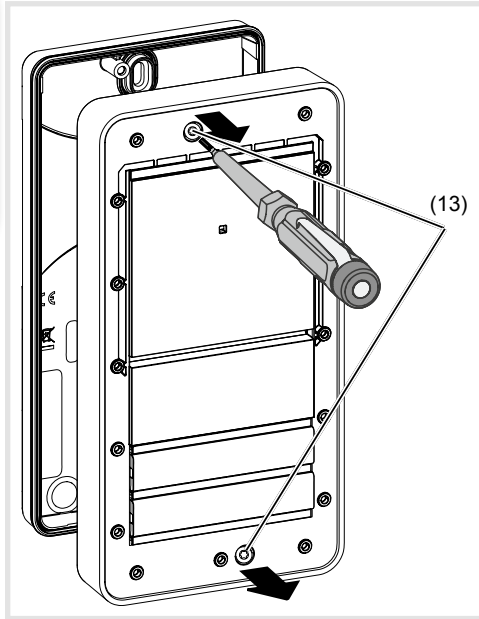

Figure 4: Opening for the first time 1
- Loosen the 2 screws (13) in the door station (figure 4).